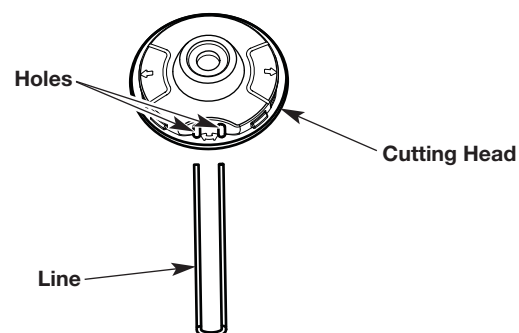
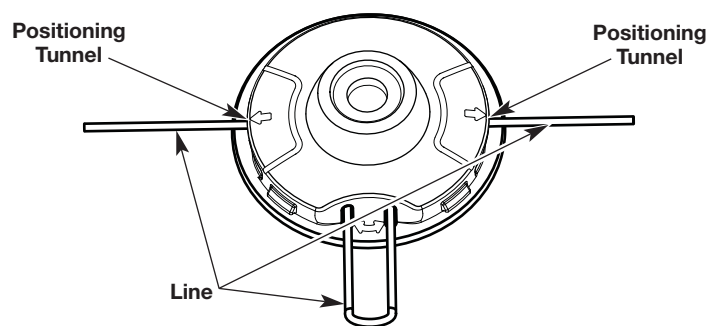

Fig. 15
Fig. 16
3. Insert the ends of the line through the circular holes in the side of the cutting head (Fig. 15). Push the line through the holes until both ends protrude from the positioning tunnels (Fig. 16).